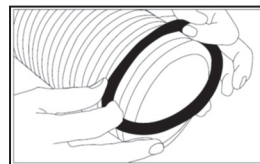
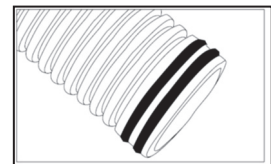
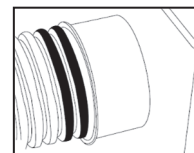

Figure 5
Figure 5A
Figure 5B
**Step #5 (See Figure 5, Figure 5A and Figure 5B)**